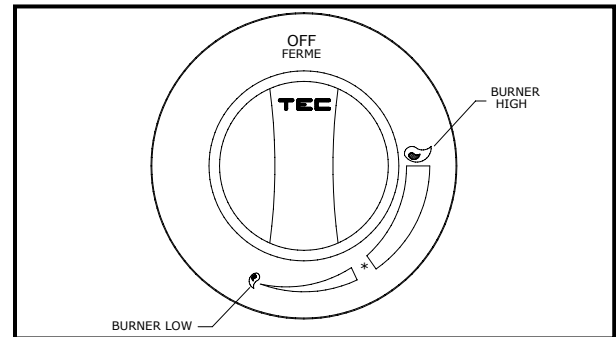

Figure 6. Burner Output Knob
1. Ensure that the Burner Output Knob is in the OFF position (see Figure 6 on pg. 10).
2. Ensure gas supply cylinder Valve is closed. Ensure Burner Output Knob is in the OFF position (see Figure 6).